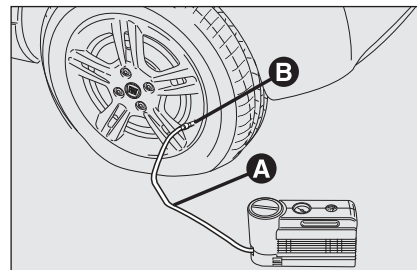

fig. 9
- ☐ **Ensure that the handbrake is on.** Unscrew the tyre valve cap, remove the flexible filler tube **A**-fig. 9 and fasten the nozzle **B** onto the tyre valve;